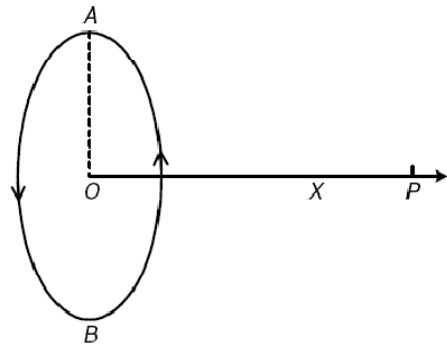

Figure 1
*Figure 1: Demonstration of magnetic field profiles. Line 1: when the distance between the coils is  $> a$ ; Line 2: when the distance between the coils is  $= a$ ; and Line 3: when the distance between the coils is  $< a$ .*
The direction of the magnetic intensity at P is along OP produced if the current flows through the coil in the anti-clock-wise direction as seen from P. If the direction of the current is clockwise the field at P is along PO (Figure 1).